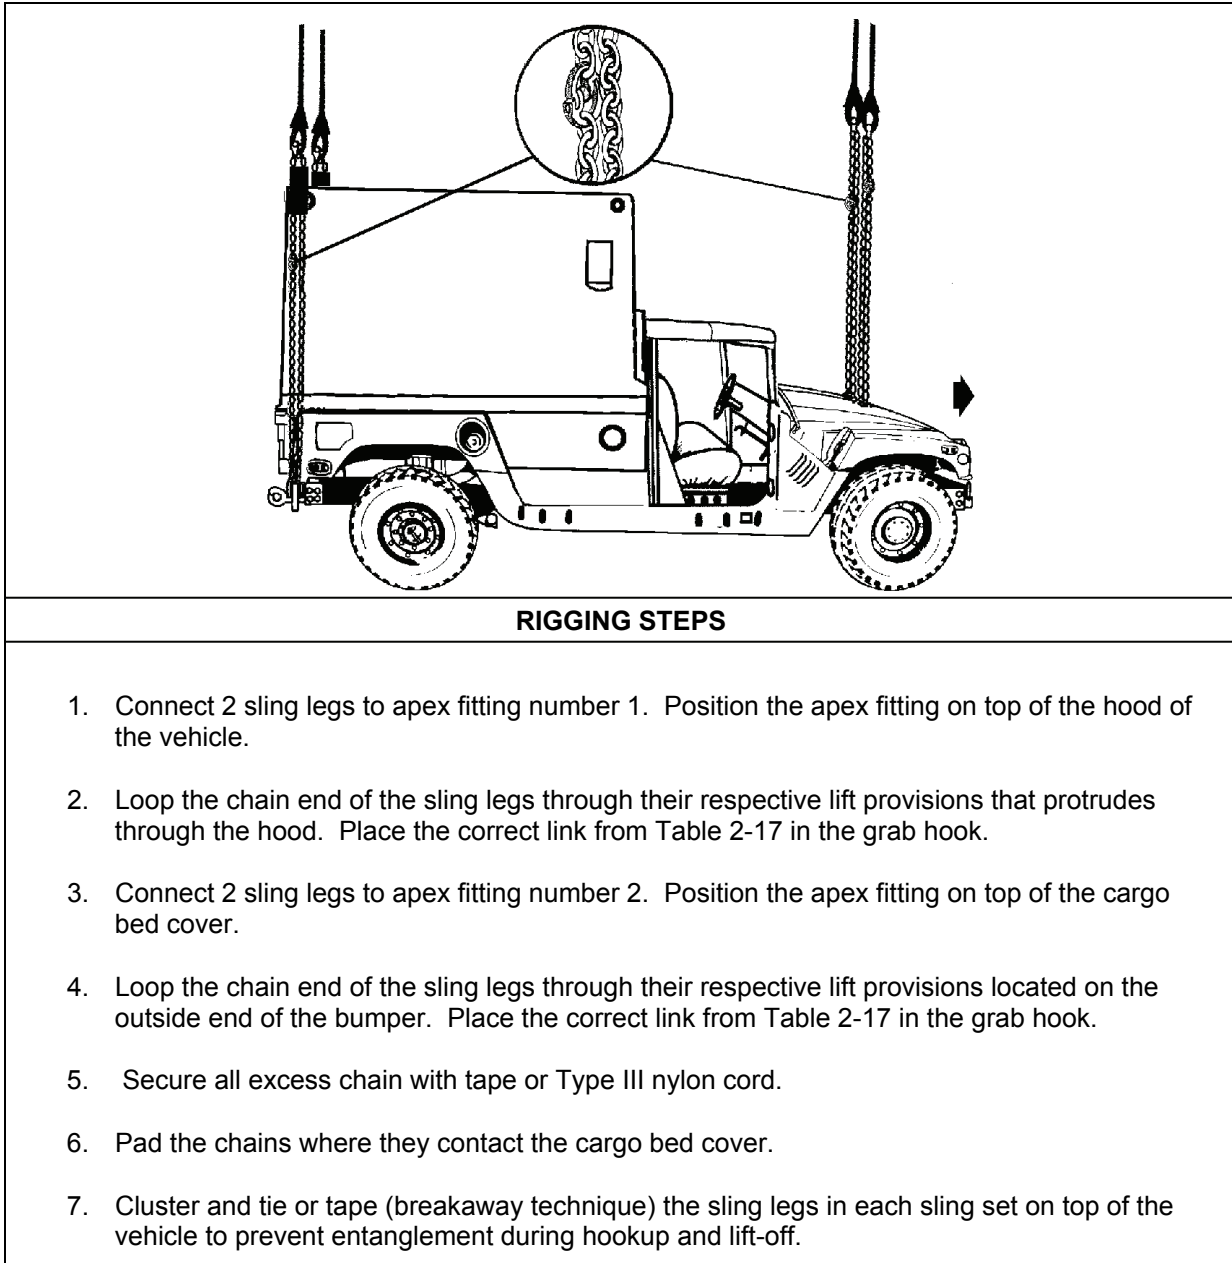

Figure 2-16. M1097A1 with Fiberglass Cargo Bed Cover
- **Rigging.** Rig the load according to the steps in Figure 2-16.